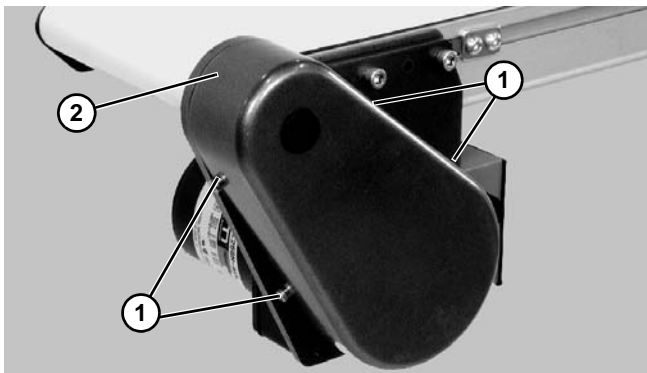

Figure 17
1. Remove four (4) screws (Figure 17, item 1) and remove cover (Figure 17, item 2).
4. Install cover (Figure 17, item 2) with four (4) screws (Figure 17, item 1). Tighten screws to 35 in-lb (4 Nm).
6. Install cover (Figure 17, item 2) with four screws (Figure 17, item 1). Tighten screws to 35 in-lb (4 Nm).